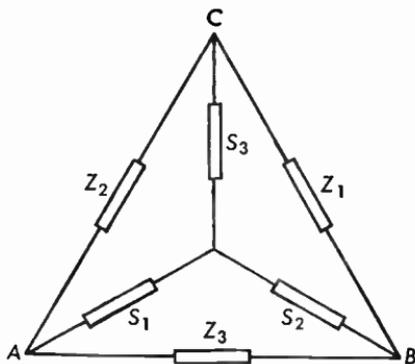

Fig. 3.39 Equivalent delta and star impedances.
3.39 Calculate the equivalent star circuit of Figure 3.39.